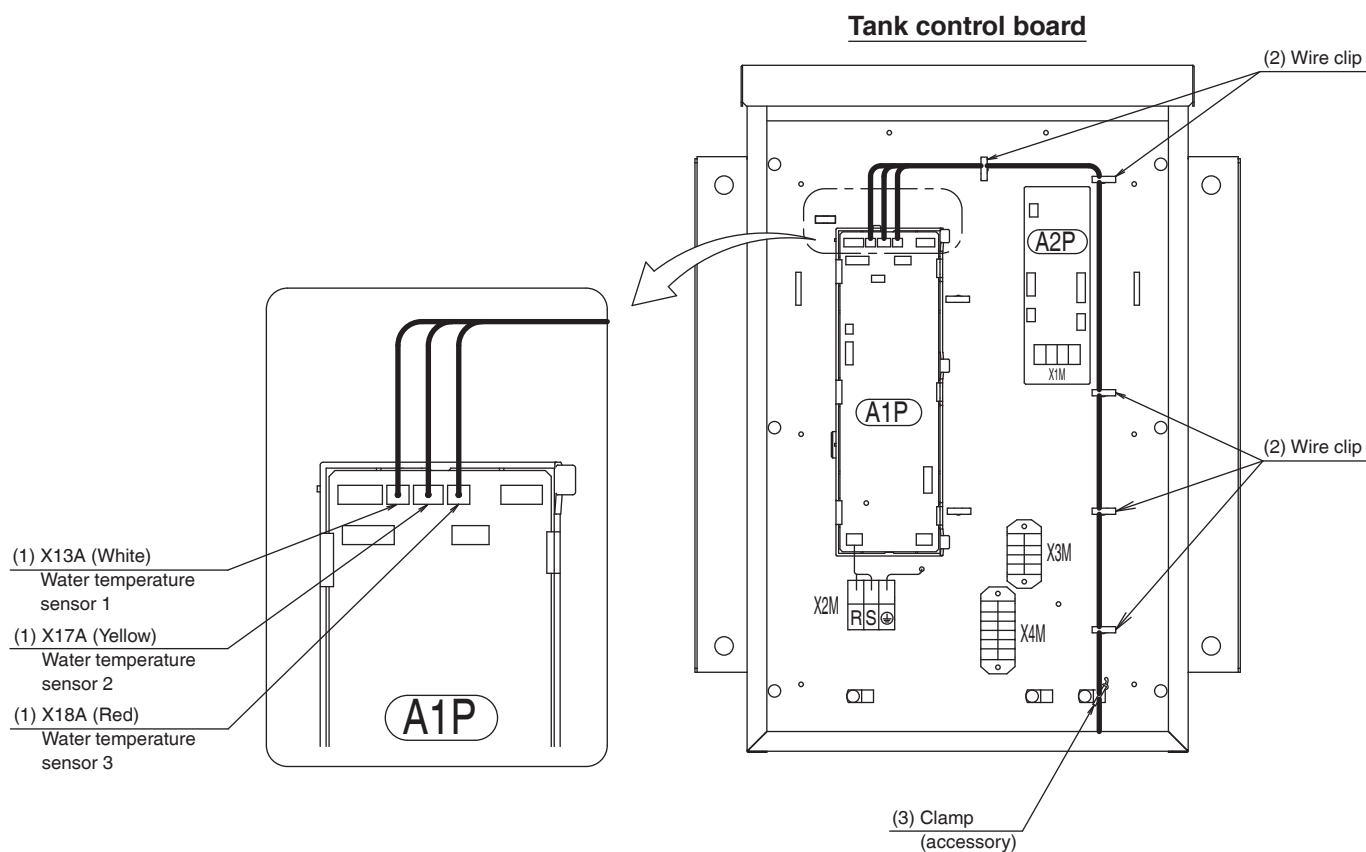

Fig. 6
- For the relay wire harness, secure the clamp (accessory) as shown in Fig. 6 so that no external force is applied to the connector.